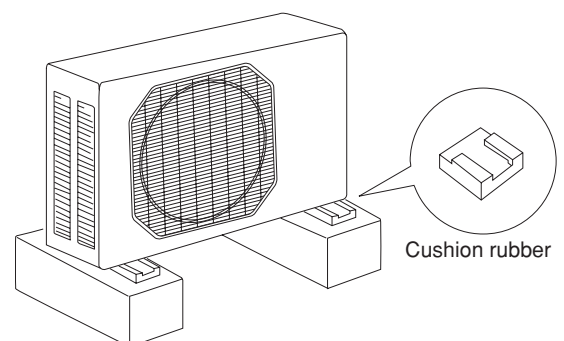

Fig. 5e
- Install cushion rubber under unit's feet to reduce vibration and noise. (Fig. 5e)